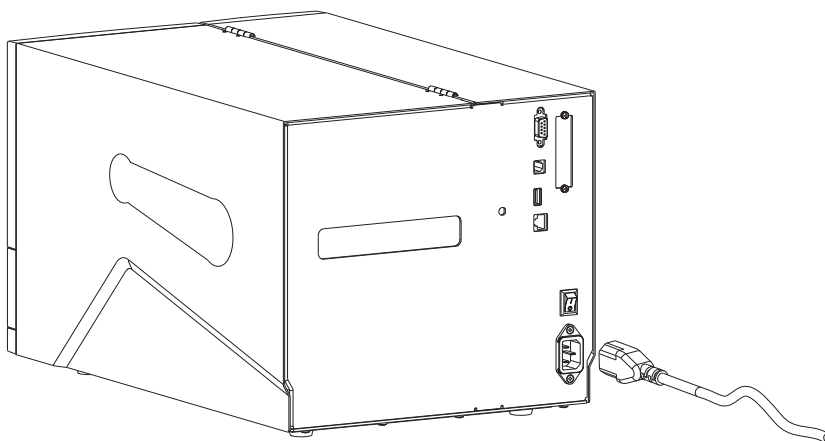

Figure 2-6 Connect the Power Cord
2. Plug the female end of the power cord into the AC Port on the back of the printer. See Figure 2-6.